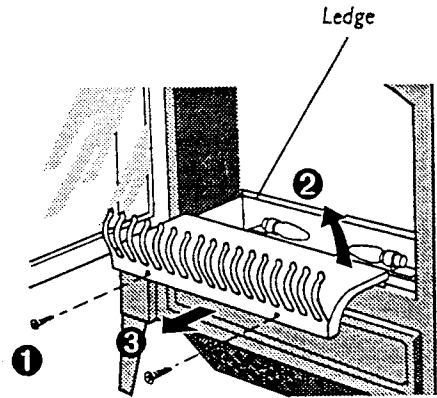

Fig. 1
Remove the two screws ❶ securing the fuel effect bed/grate assembly (see Fig. 1).
- 1.3 Refit the fuel effect, ensuring that the rear edge locates on the ledge at the base of the glass viewing screen (see Fig. 1), then refit the coal.